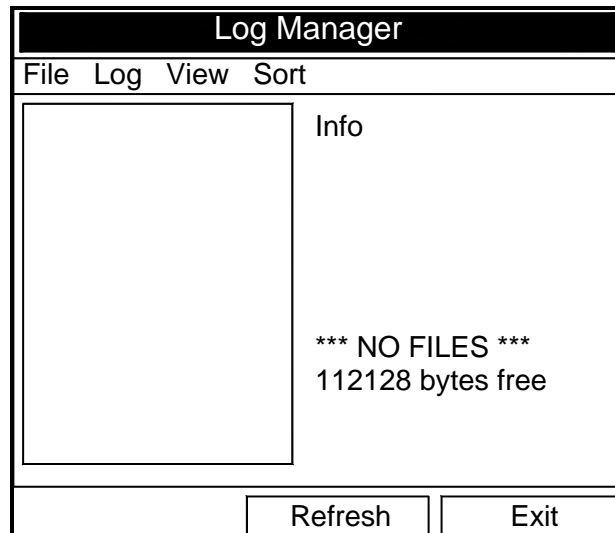

Figure 5-2: Log Manager Window
The Log Manager offers users a way to check the status and memory size of all the logs currently pending, running or finished. To select Log Manager, scroll to the Log Manager entry on the Logging Menu and press [ENTER]. If no logs have been entered, the screen appears similar to Figure 5-2 below. If logs have been entered, the right section of the screen supplies information for a log highlighted on the left. Use the [▼] and [▲] arrow keys to scroll to a particular log and display information pertaining to that log.
1. First, select the log you wish to copy in the Log Manager (see Figure 5-2 on page 5-2).
1. First, select the log you wish to rename in the Log Manager (shown in Figure 5-2 on page 5-2).
1. First, select the log you wish to delete in the Log Manager (shown in Figure 5-2 on page 5-2).